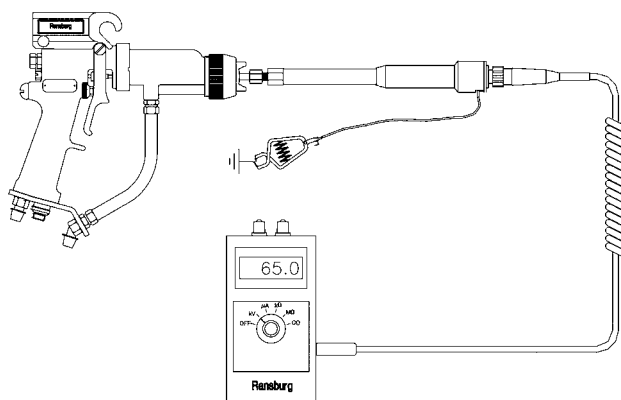

Figure 7: Measuring High Voltage On Electrostatic Air Spray Gun
1. Set the meter dial to the kV scale (see Figure 7). Plug the high voltage probe into the side of the meter.